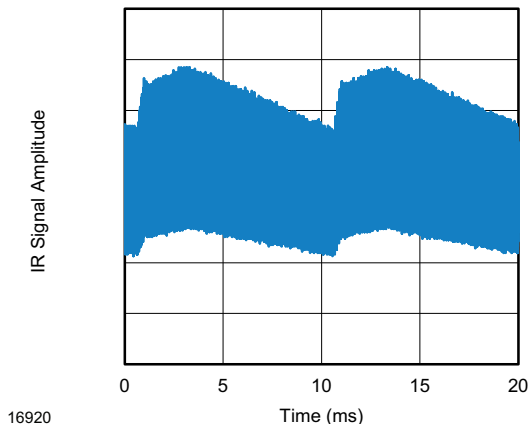
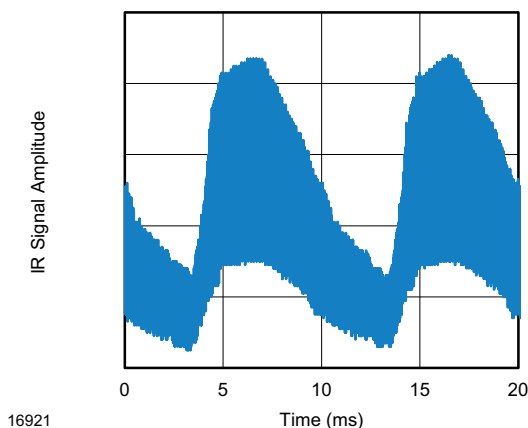

Fig. 14 - IR Disturbance from Fluorescent Lamp With Low Modulation
Fig. 15 - IR Disturbance from Fluorescent Lamp With High Modulation
- Modulated IR pattern from common fluorescent lamps (example of noise pattern is shown in Fig. 14 or Fig. 15)